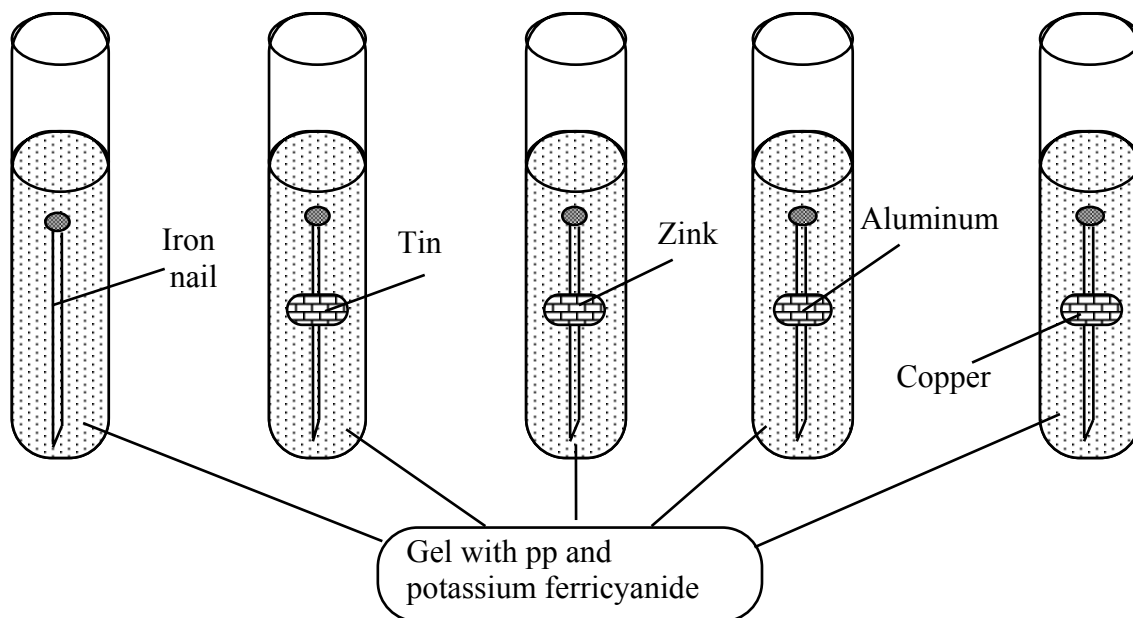

Figure 6.1 Experiment design
7. Label test tubes 1 to 5. Place a cleaned nail into test tube 1. Attention: for test tube 2 – 5, nails must be precisely fit the hole of metals (see Figure 6.1)
10. Place the test tubes on a shelf tube. After a while, observe the color changing around gel. According to the observation, color the area around nail and metal sheet on Figure 6.1